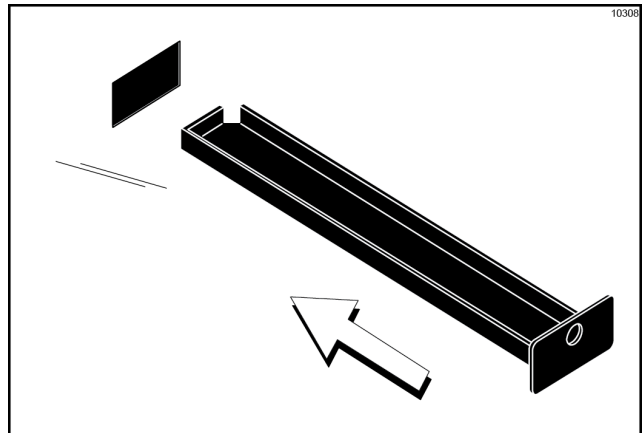

Figure-142
17. Slide the two shorter drip pans into the holes in the rear panel. Slide the two notched drip pans into the left and right side panels. (See Figure-142.)